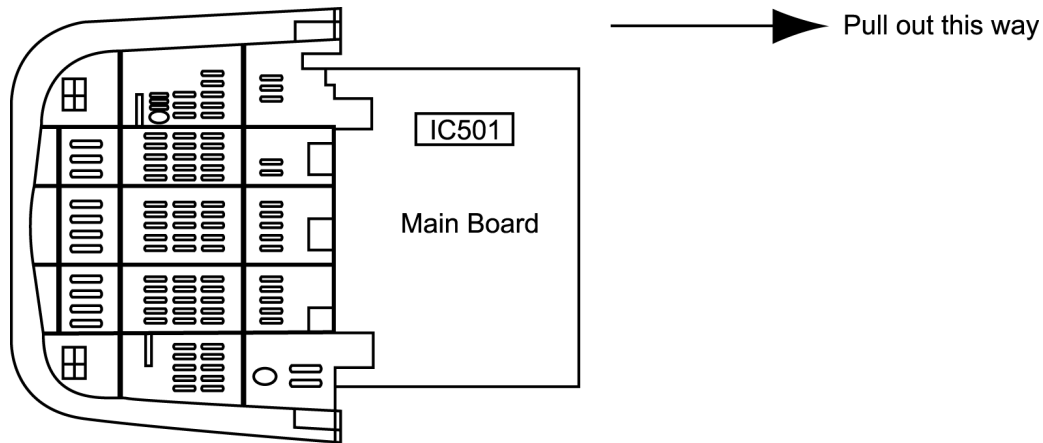

Fig. 2
2. Stand the TV set as shown in Fig. 2.
3. Remove the A-Board from the TV set by pulling the main board out as shown in Figure 2.